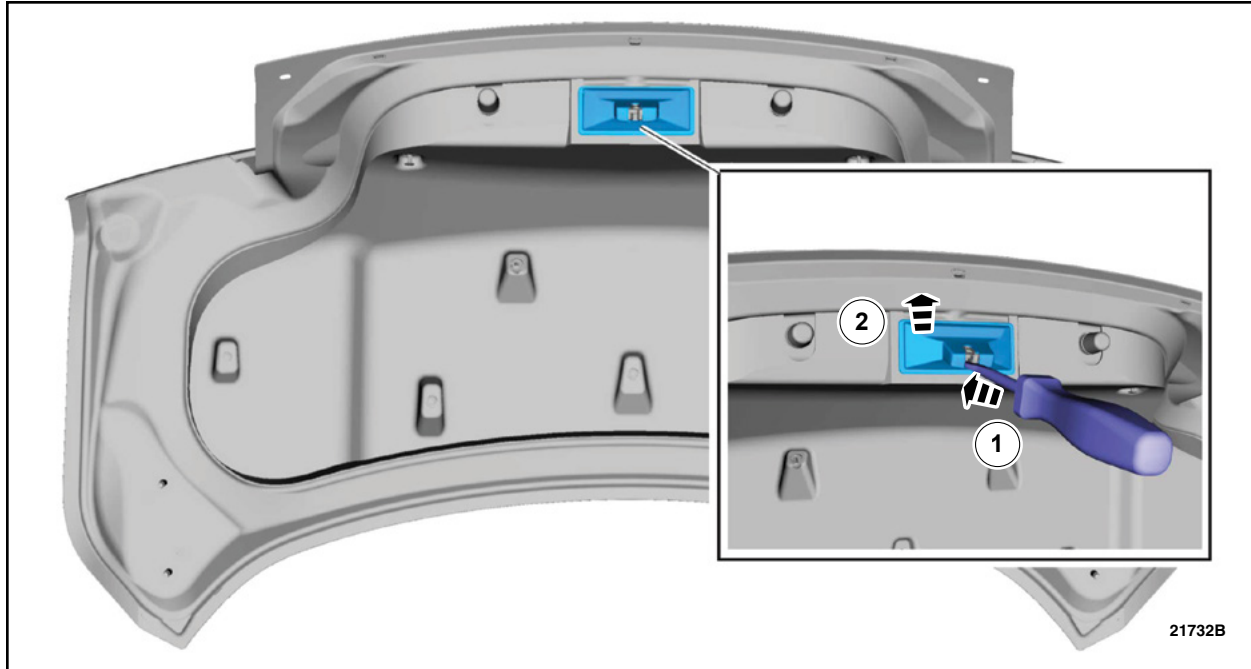

FIGURE 5
8. Remove the luggage compartment lid latch cover. See Figure 5.